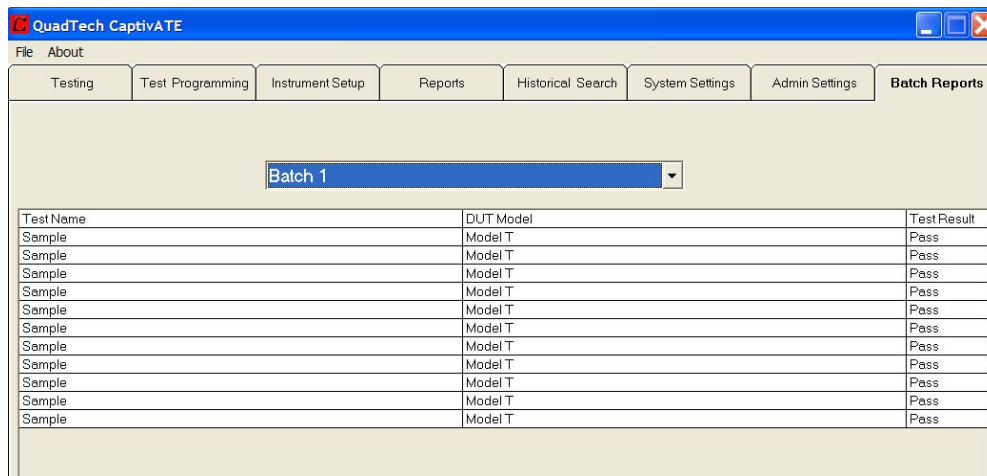

**Figure 87 Testing Screen with Batch Buttons**
4. To start a batch on the *Testing* screen, enter a number or name in the Batch # text box. In the unlabeled text box pointed to in Figure 87 , enter a name for the batch test.